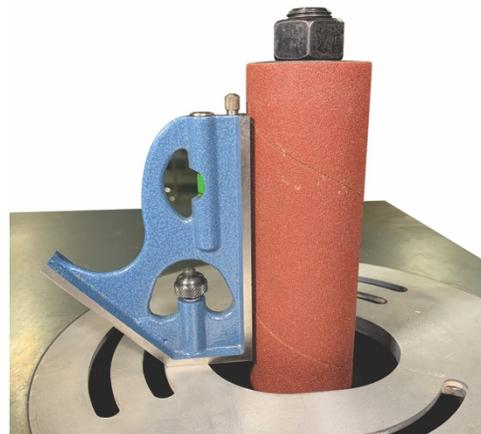
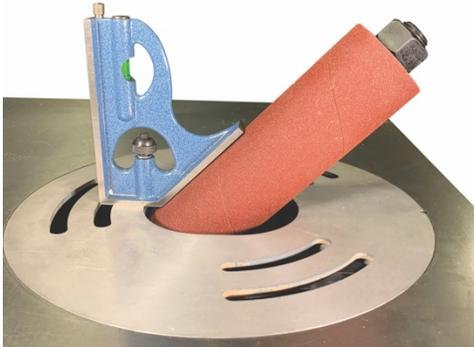

Figure 8-2: Square and Sanding Drum, 0° (90° to table)
Figure 8-4: Square and Sanding Drum, 45°
2. Press power switch (B) on Spindle Angle Digital Readout on front panel of sander. The digital readout will light up when turned on.
3. Place 90° square on table and against front of drum or spindle (Figure 8-2).
4. Loosen knurled handwheel lock knob (C) Rotate angle adjusting handwheel (D) clockwise until it stops.
5. Check the square and sanding drum. The sanding drum should be at 90° to the table and the digital readout should be "0.0". If adjustment is needed, loosen nut (F) on 90° stop screw (G) and turn screw to proper height. Verify setting on square and sanding drum and retighten nut against the trunnion (K).
6. When a true 90° sanding drum angle to the table is achieved, press the "zero" button (E) on the digital readout to set it at "0.0".
7. Remove square from contacting drum or spindle and rotate angle adjusting handwheel (D) counterclockwise until it stops.
8. Place 45° square on table and against drum or spindle (see Figure 8-4).
9. Check the 45° square and sanding drum. The sanding drum should be at 45° to the table and the digital readout should be "45.0". If adjustment is needed, loosen nut (H) on 45° stop screw (J) and turn screw to proper height. Verify setting on square and sanding drum and retighten nut against the trunnion (K).